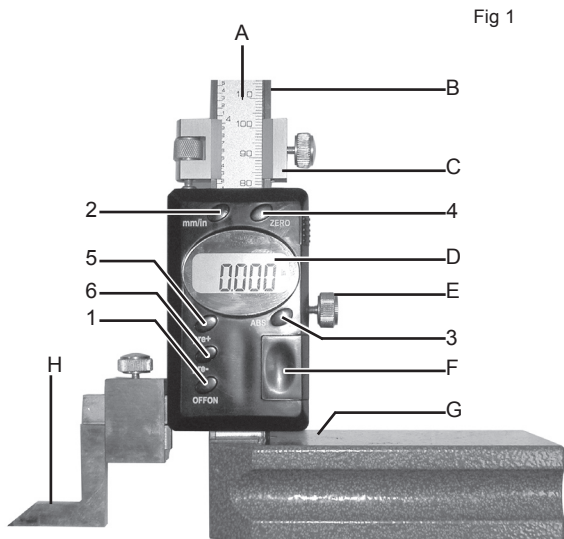

Fig 1
- 3.6 To accurately position the slider, use the fine adjustment set (Fig 1/C).
- 3.7 To fix the position of the slider itself e.g. for using the scriber, tighten the fastening screw (Fig 1/E).
- 4.2 To remove/change the battery: Slide the battery compartment lid located on the front of the main body (Fig 1/F). Remove/replace the battery (CR2032) (anode (+) facing outward) and slide the cover back on.